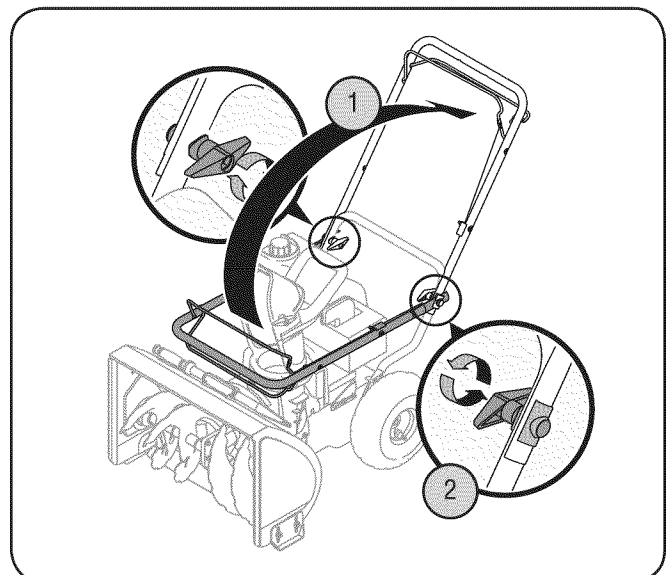

Figure 3-2
3. Loosen the wing knob and tab on each side of the handle. See Fig. 3-2.
4. Being careful not to bend or kink the cables, hold both controls against upper handle and pull up as shown in Step 1 of Fig. 3-2. Make sure that the upper handle locks over the lower handle and handle tabs align with the handle. You may have to carefully maneuver the upper handle to clear chute assembly.
5. Tighten the wing knobs on each side of the handle. Refer to Step 2 in Fig. 3-2.